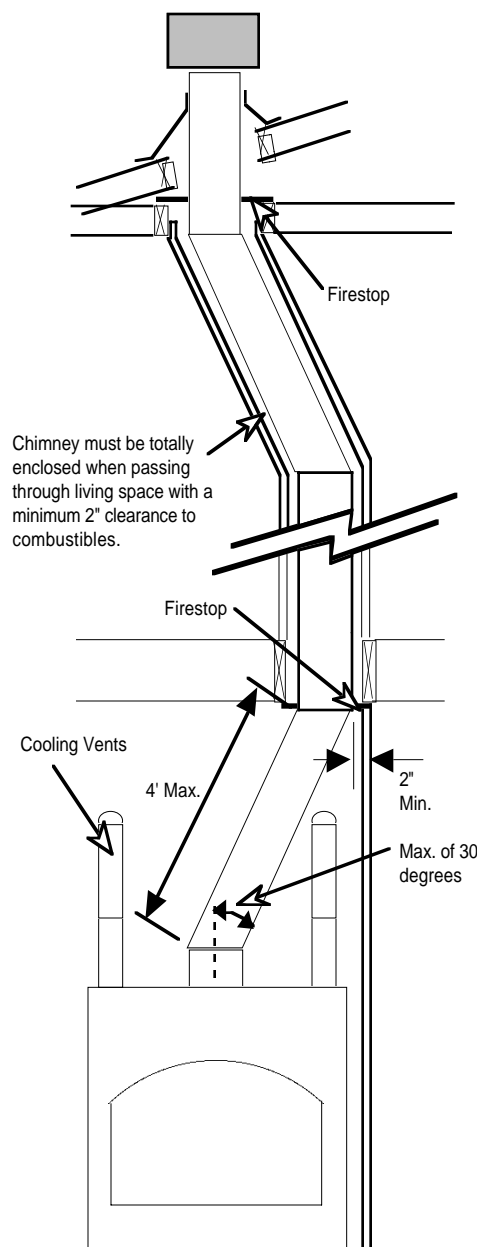

Figure 22
- Offsets (using a pair of 30° elbows) may be used to redirect the chimney. Typically this is done to avoid structures, align the pipe with framing, or to gain clearance to combustibles (see Figure 22).